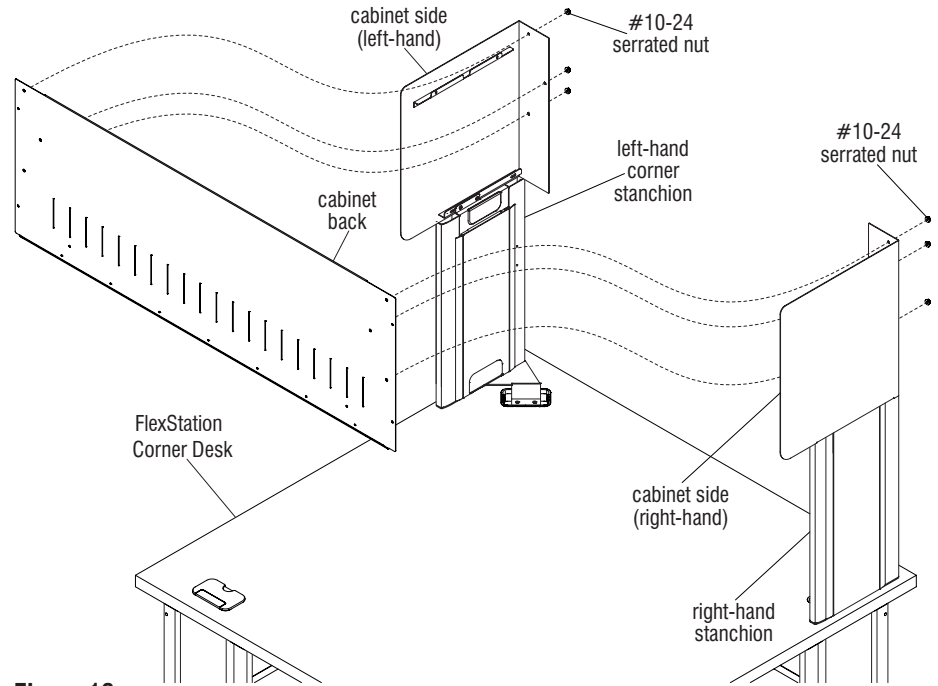

Figure 16
7. Position cabinet back as illustrated, with studs facing the rear. Orient the cabinet back into position, inserting the studs on the cabinet back through the mounting holes in rear flanges of both installed cabinet sides. Use six #10-24 serrated nuts to secure back to sides (Figure 16).